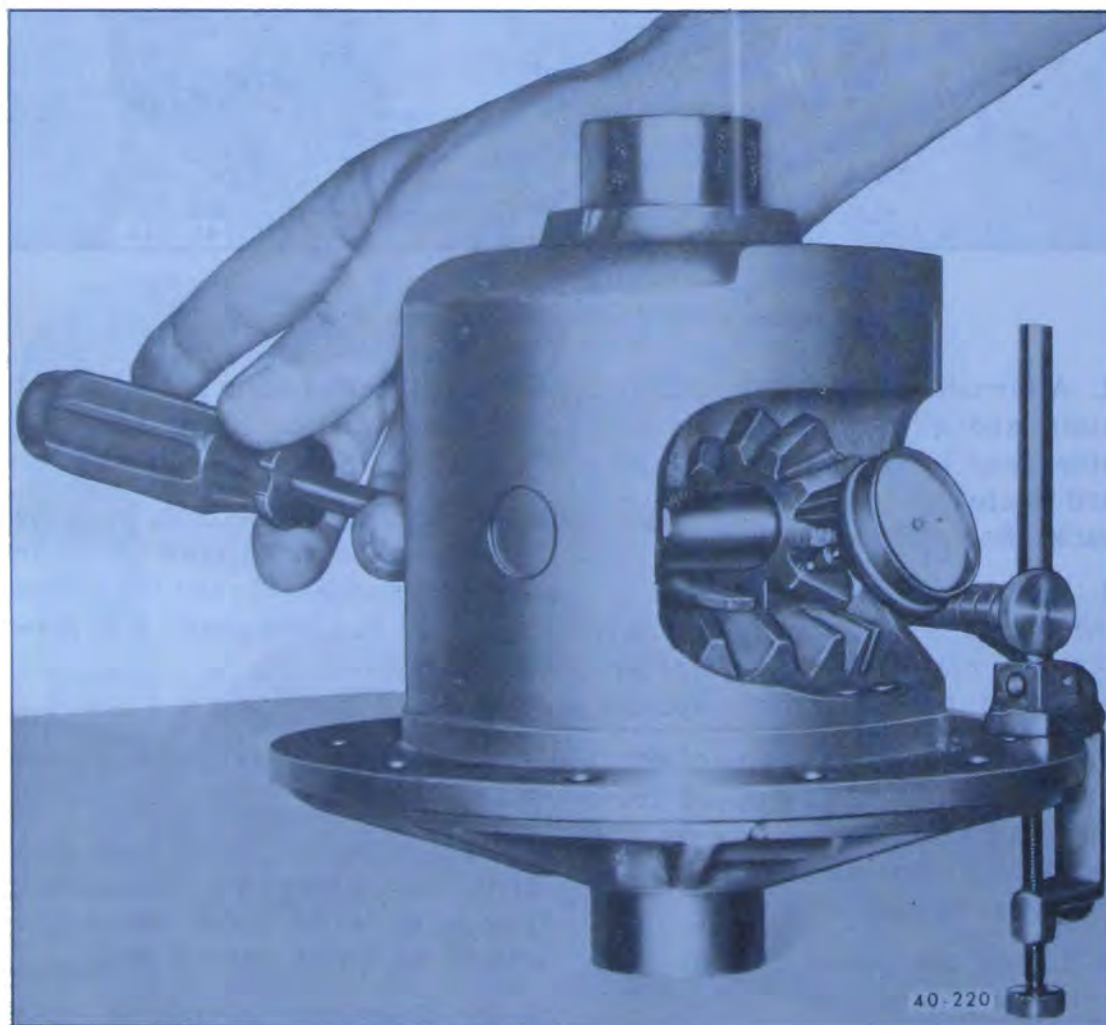

Figure 40-221—Checking Pinion to Side Gear Clearance
c. Compress the clutch pack by inserting a screwdriver or other suitable wedge between the pinion shaft and the side gear. See Figure 40-221.